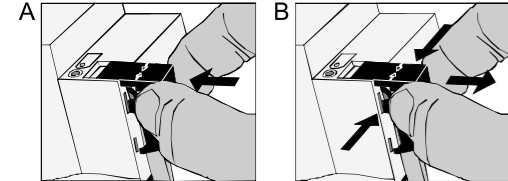

Fig. 9: Protective cap
- Slide the cap over the bus terminal (Fig. 9, A) until it is heard to engage.
- Press the sides and pull out the cap (Fig. 9, B).